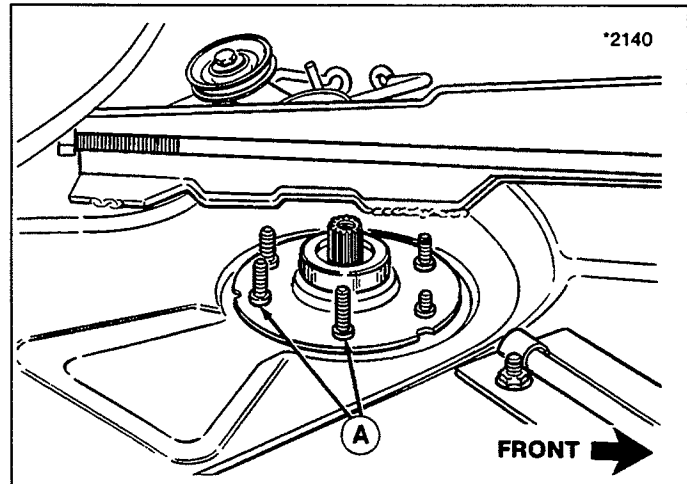

Figure 3.
6. See figure 3. Replace the two 3/4 taptite screws as shown with two 5/16-18 x 1-1/2 taptite screws supplied.